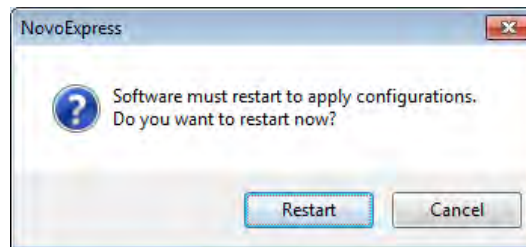

Figure 2-8 Dialog Box for Restarting the Software
- 8 Click *Restart* in the next window (Figure 2-8) to restart the software to apply the new optical configuration setting.